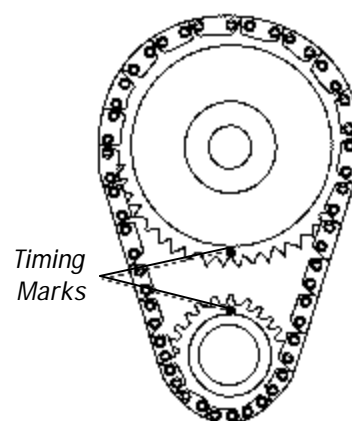

Figure 2 - Timing Chain Sprocket Alignment
15. Remove fuel pump and fuel pump pushrod. Rotate engine until timing marks are aligned as in *Figure 2*.
2. Install new camshaft with new sprockets and timing chain align timing marks as shown. See *Figure 2*.
3. Install camshaft with timing marks lined up as recommended by factory specifications. See *Figure 2*.
- **PUSHROD AND ROCKER ARM INSTALLATION** - After the cam is installed and timed correctly (*see Figure 2*), install pushrods, lifters and rocker arms. NOTE: High performance adjustable rocker arms must be used with screw-in rocker arm studs and guide plates. Stock cylinder heads may require machining to install screw-in studs. Hardened steel pushrods **MUST** be used with guide plates. Longer than stock pushrods may be required.